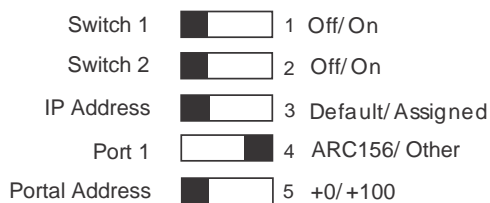

Figure 18. BACnet Portal DIP Switches
3. Set port 1 DIP switch to *Other* (see Figure 18).